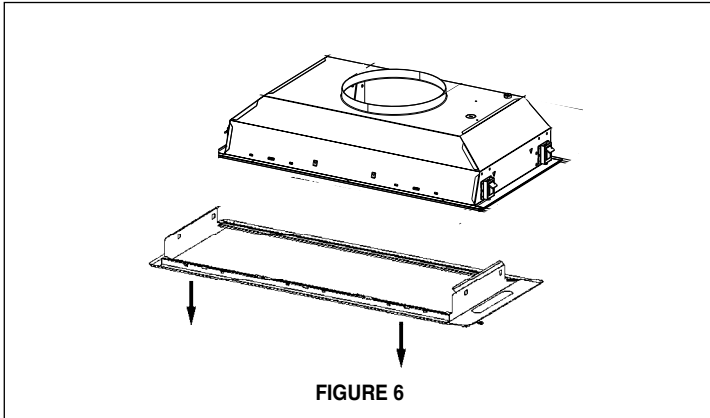
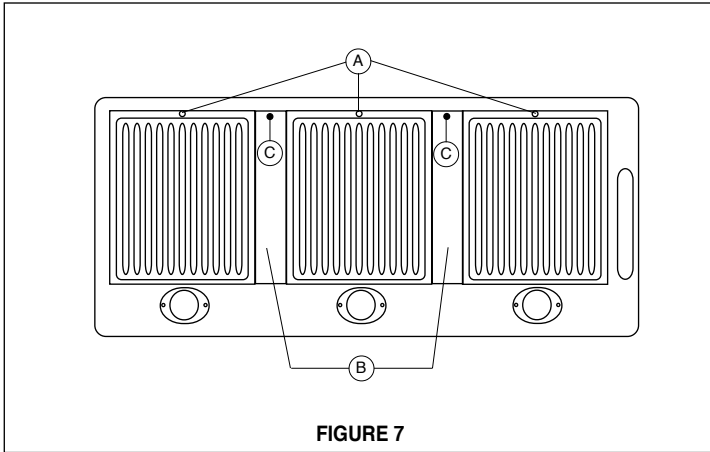

FIGURE 6
FIGURE 7
2. The entire bottom of the rangehood must be removed for installation as indicated in **FIGURE 6**. Remove the grease filters **USING TWO HANDS** (one to hold the filter so that it doesn't fall on cooktop and one to turn the knob **(A in FIGURE 7)** by pulling the knob out and turning to the left.
3. Remove the grease filter divider **(B in FIGURE 7)** by first removing the plastic screw cover **(C in FIGURE 7)**, then removing the phillips screw under the screw cover.